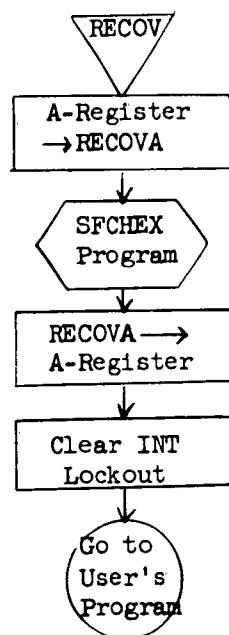

Figure 7.21 RECOV
7.3.4.1 RECOV Subroutine (Figure 7.21)